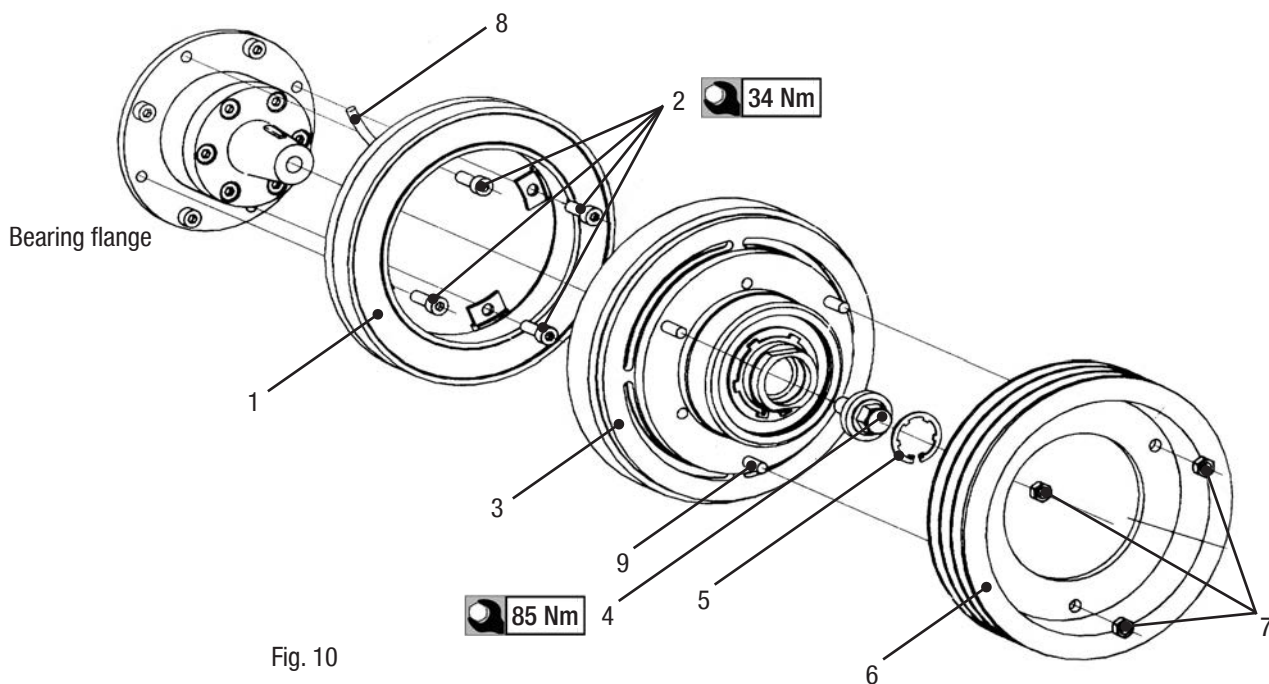

Fig. 10
- For fitting the solenoid (1) remove the four M8x25 cylinder screws (2) on the bearing flange (indicated with circles and arrows, Fig. 8 page 21 and Fig. 10 page 22).